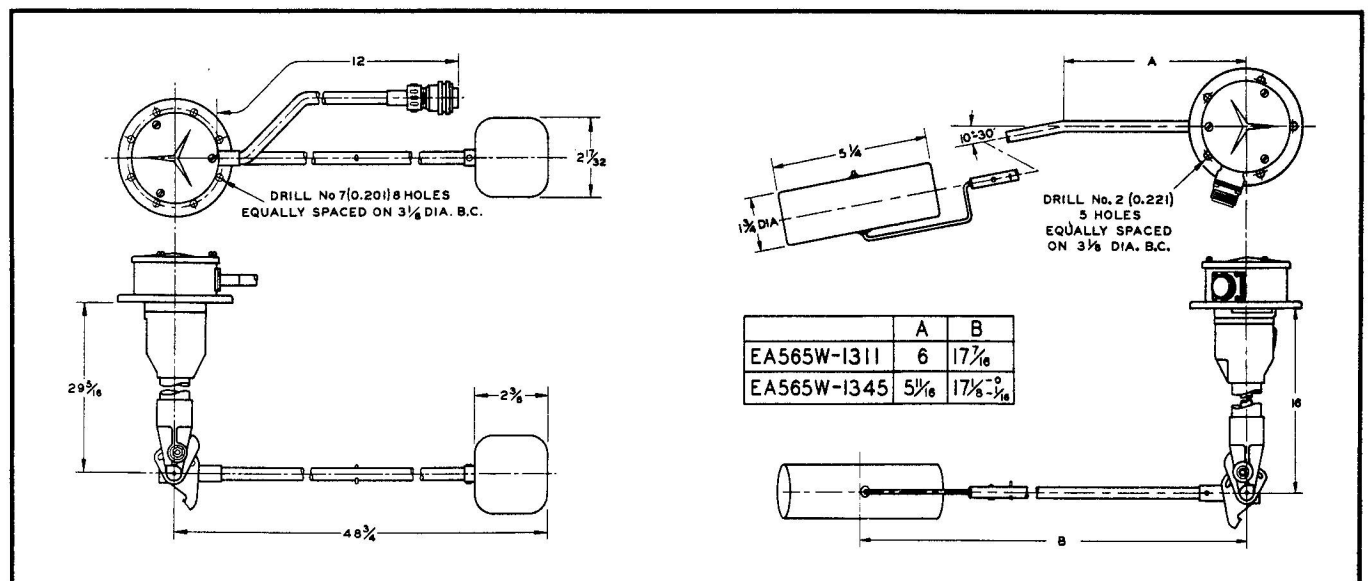

Figure 4-270. General Dimensions
Dimensions	see figure 4-270
See figure 4-270 for dimensions.
Follow general instructions given in paragraphs 2-33 thru 2-35, 2-37 thru 2-39, 2-41 thru 2-43, 2-45, 2-46, 2-48, 2-50 thru 2-52 and instructions given below. Use figure 4-270 for dimensions.
Item 61. Align float fork (61) and float (2 and 5) to correspond to general dimension drawing, figure 4-270.